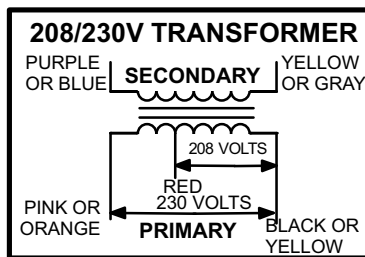

FIGURE 3
All SCH series units use a single line voltage to 24VAC transformer mounted in the control box. Transformer supplies power to control circuits in the unit. The transformer is rated at 70VA and is protected by a 3.5 amp circuit breaker (CB8). The 208/230 (Y) voltage transformers use two primary voltage taps as shown in figure 3, while 460 (G) and 575 (J) voltage transformers use a single primary voltage tap.